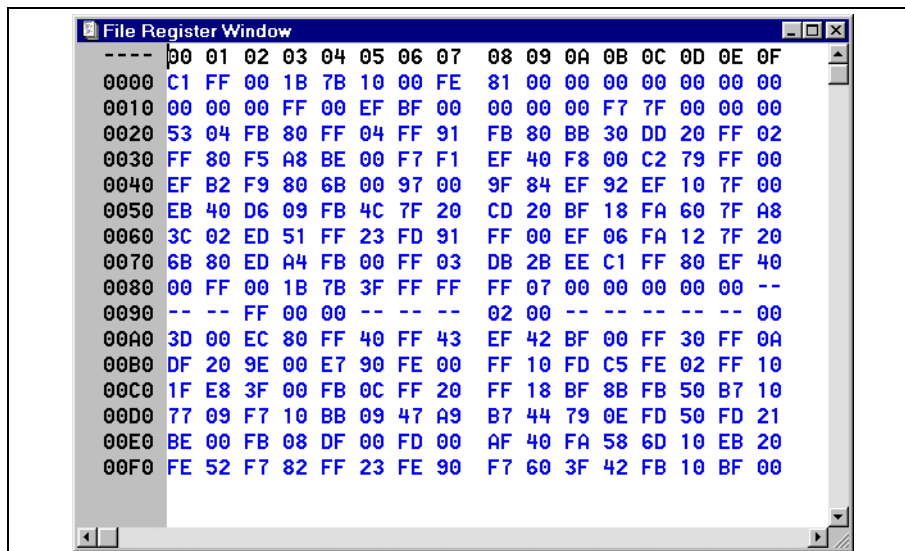

Figure 1.71: File Register Window – HEX Display
- **HEX Display** – This displays the file registers as HEX data (Figure 1.71).